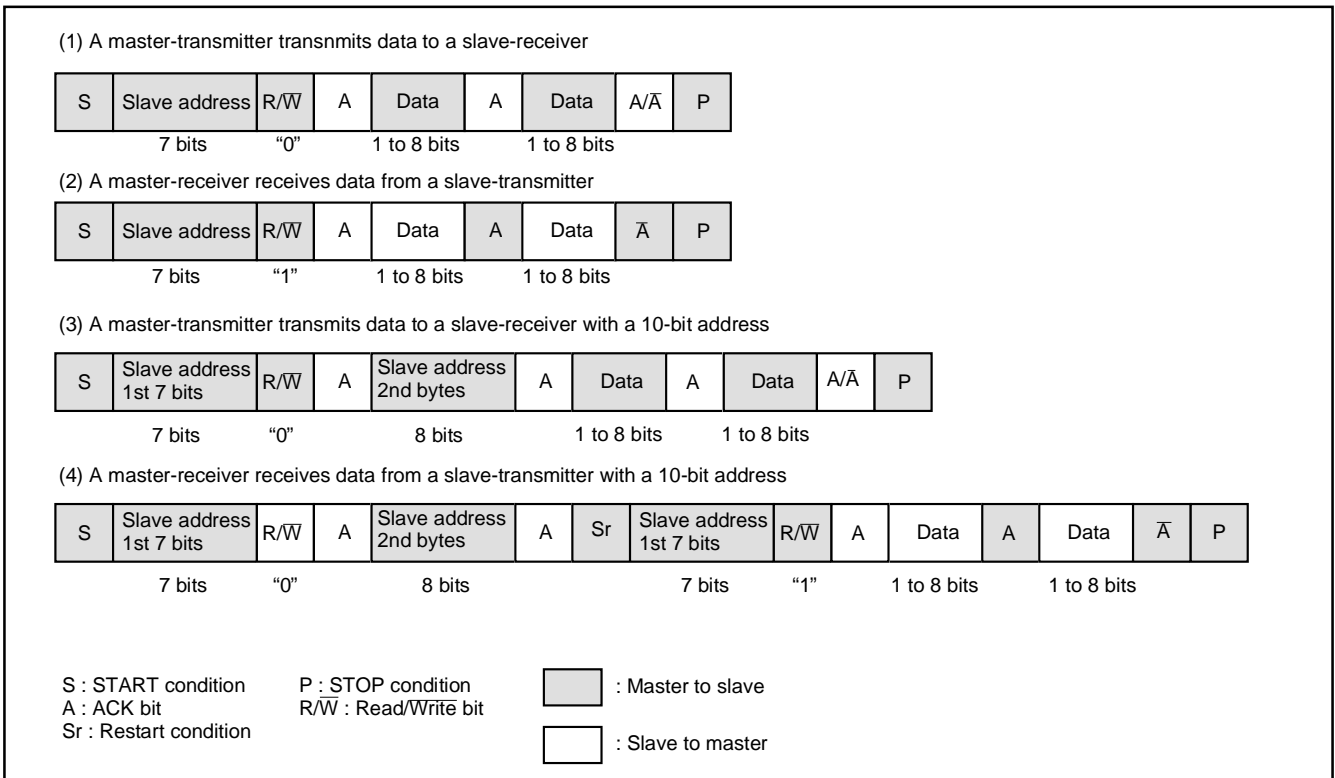

Fig. 39 Address data communication format
To adapt the 7-bit addressing format, set the 10BIT SAD bit of the I2C control register (address 002E16) to "0." The first 7-bit address data transmitted from the master is compared with the high-order 7-bit slave address stored in the I2C address register (address 002C16). At the time of this comparison, address comparison of the RWB bit of the I2C address register (address 002C16) is not performed. For the data transmission format when the 7-bit addressing format is selected, refer to Figure 39, (1) and (2).
When the first-byte address data agree with the slave address, the AAS bit of the I2C status register (address 002D16) is set to "1." After the second-byte address data is stored into the I2C data shift register (address 002B16), perform an address comparison between the second-byte data and the slave address by software. When the address data of the 2 bytes agree with the slave address, set the RWB bit of the I2C address register (address 002C16) to "1" by software. This processing can make the 7-bit slave address and R/W data agree, which are received after a RESTART condition is detected, with the value of the I2C address register (address 002C16). For the data transmission format when the 10-bit addressing format is selected, refer to Figure 39, (3) and (4).